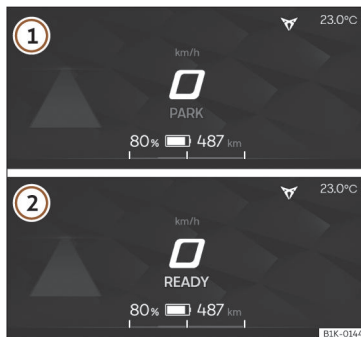

Fig. 8 Digital Cockpit Display
1. When the drive system is switched on, the Digital Cockpit displays the speedometer / speed display >>> **Fig. 8**